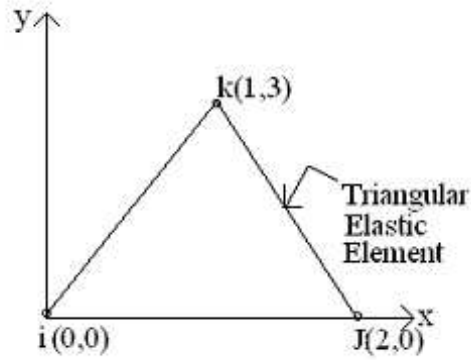

Figure 8
8. Calculate the element stiffness matrix and the thermal force vector for the plane stress element as shown in figure 8. The element experiences a  $10^0$  c increase in temperature.